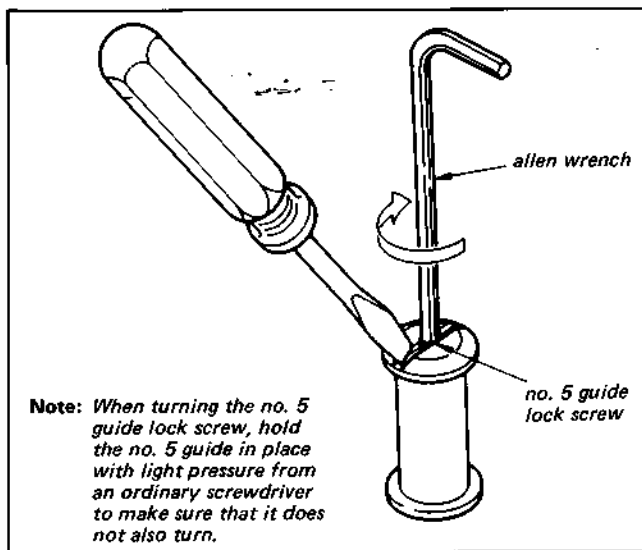

Fig. 4-6.
- 3) Loosen No. 5 guide lock screw ① and turn the No. 5 guide until the entrance waveform sticks up a little above flat, as shown in the figure below. Then tighten the No. 5 guide lock screw (Fig. 4-6).